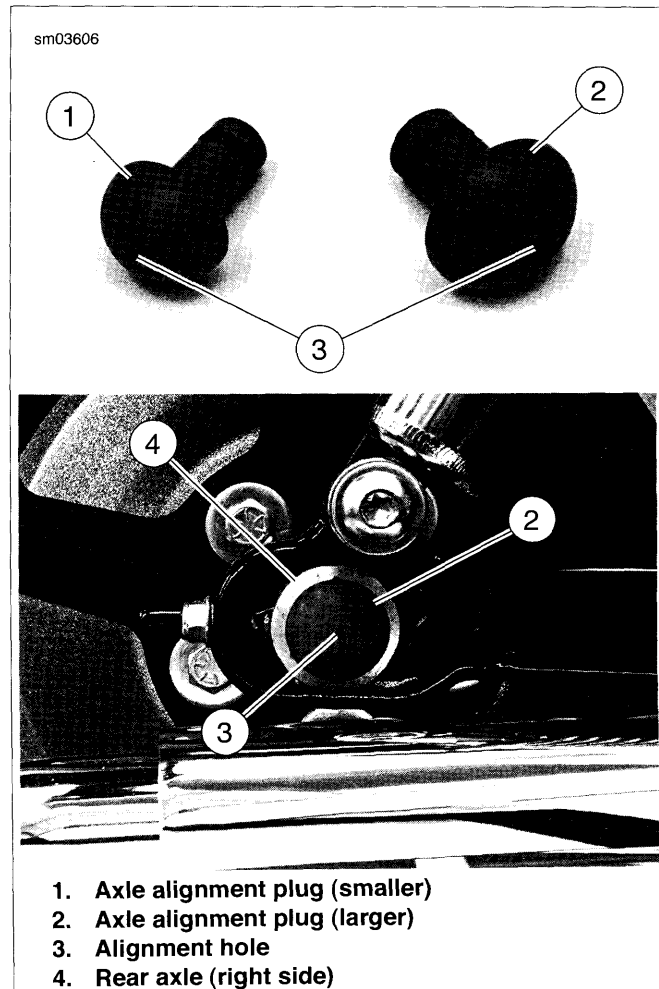

Figure 1-60. Axle Alignment Plugs
1. Obtain AXLE ALIGNMENT PLUG SET (Part No. HD-48856). See Figure 1-60. Insert axle alignment plugs (1, 2) into left and right ends of rear axle.